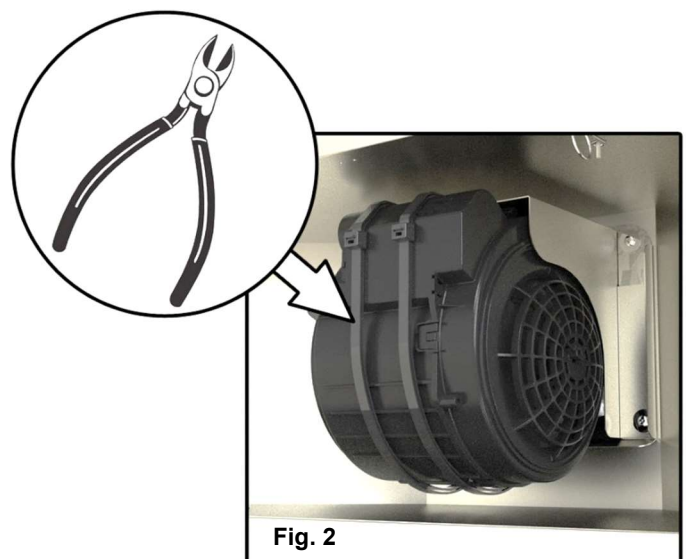

Fig. 2
4.7. Removing the Motor Transport Ties (If Fitted) (see fig.2)